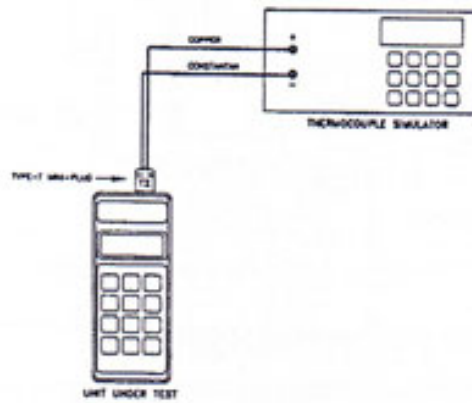
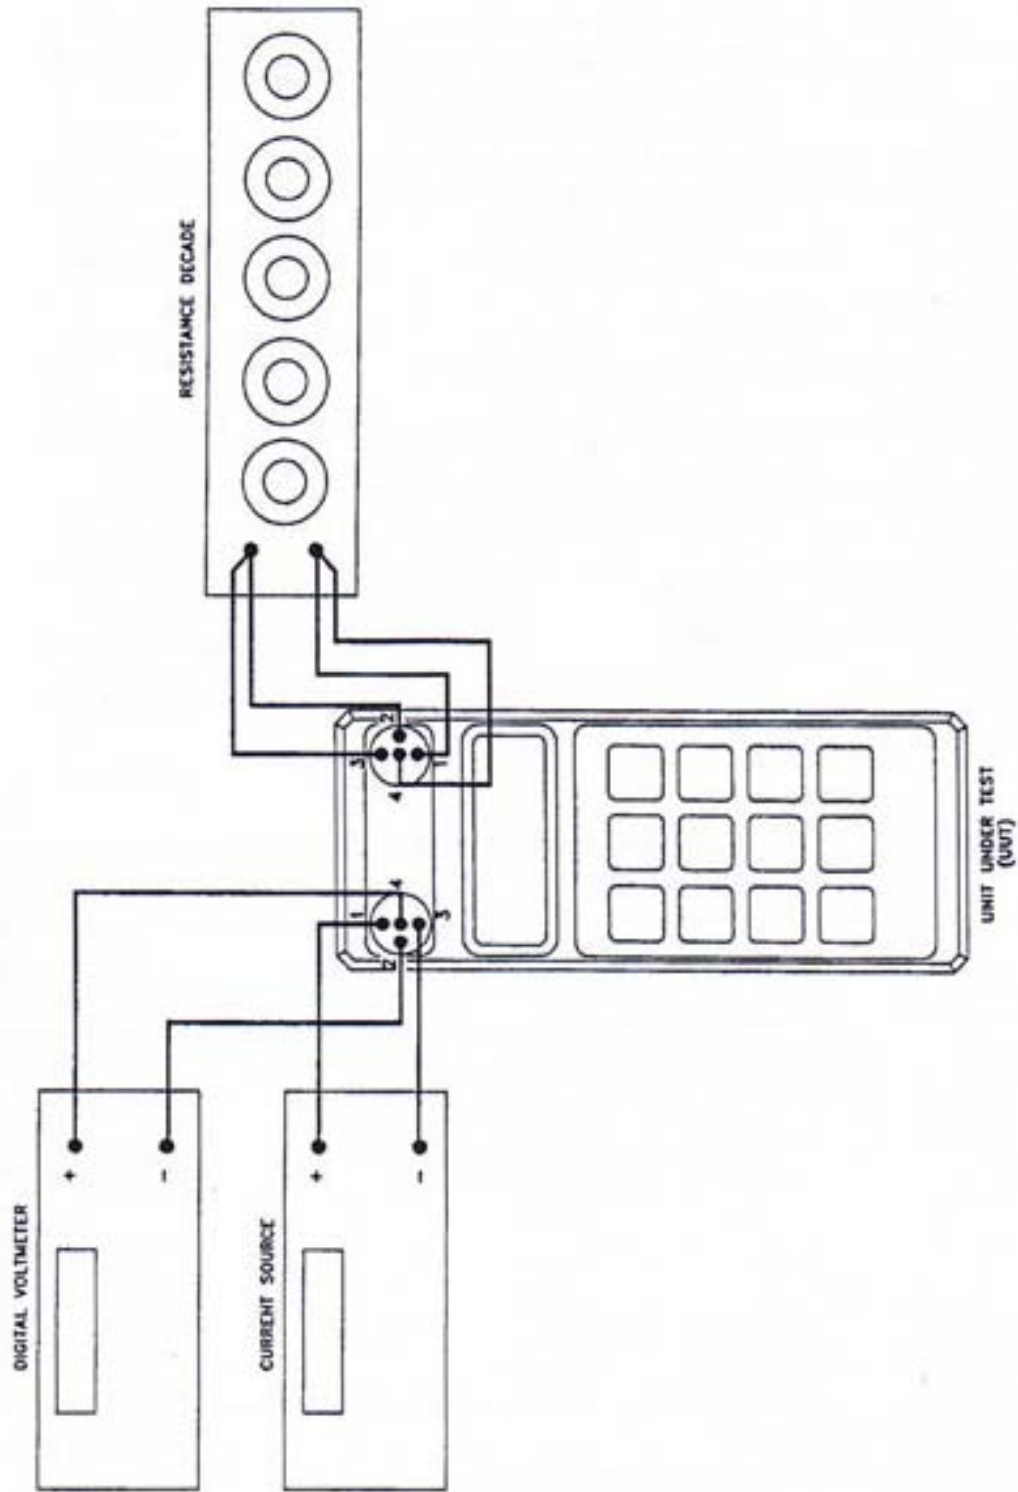

Figure 12. Calibration Setup, Meter Mode.
Figure 14. Resistance Calibration Setup
NOTE: The copper constantan cables used in Figures 12 and 13 need to be calibrated. Voltage errors in these cables should be compensated at the simulator.
10. Reconfigure calibration set-up per Figure 12. Allow 2-3 minutes for thermal stabilization.
4. Calibration cables per Figure 14.
3. Hook up test-equipment and unit per Figure 14.
Calibration is verified with the same instrument hookups as used for calibration (ie. Figures 12 And 13 for thermocouple functions, Figure 14 for resistance functions).